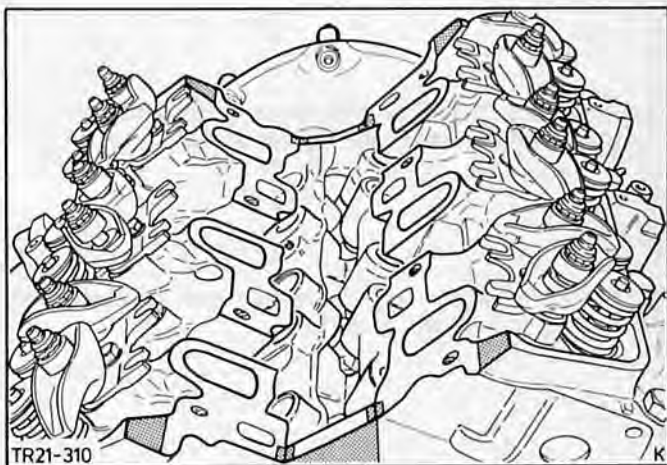

Fig.81. Coat mating faces with sealing compound.
21. Coat mating faces of cylinder block, cylinder heads and inlet manifold with sealing compound, Fig.81, and fit new inlet manifold gasket.